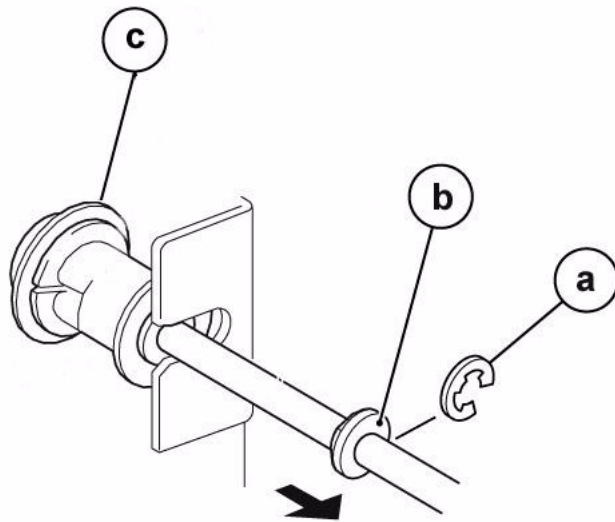

Figure 7 Lift Shaft Front Tray Cable Pulley
1. Remove the (5) screws securing the HCF Tray's Front Cover.
2. At the front of the HCF Tray, begin to free up movement of the front Tray Cable Pulley (Figure 7).